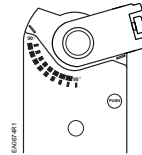

Figure 10.
- a. Insert the shaft adapter to the right as close as possible to the raised stop. Figure 10.